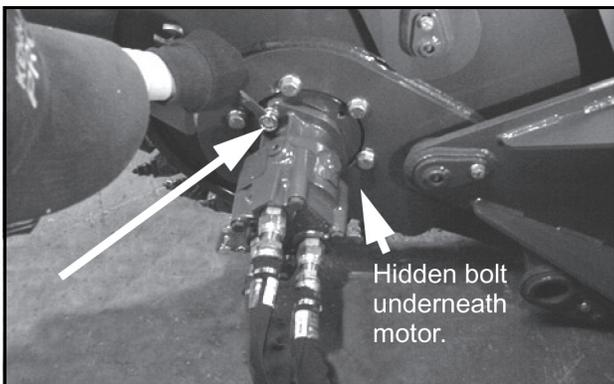

Figure 27. Motor
1. Disconnect all hydraulic quick couplers from the skid steer, relieve any residual back pressure in the hoses and remove the motor from the gearbox by removing two bolts as shown as shown in Figure 27.